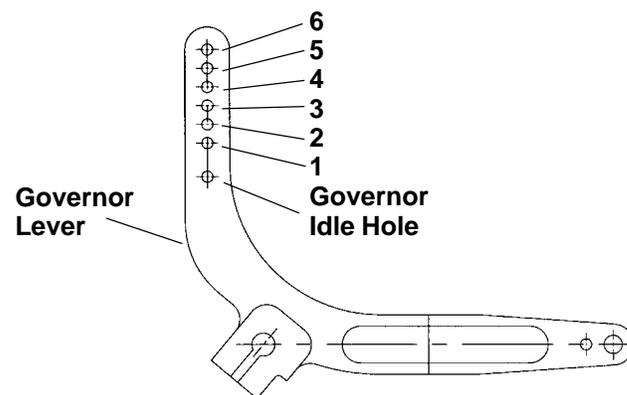

**Figure 11-82. Connecting Spring to Governor Lever.**
3. Connect the governor spring from the main control bracket to the appropriate hole in the governor lever as indicated in the following charts. Note that hole positions are counted from the pivot point of the governor lever. See Figure 11-82 and the appropriate chart.